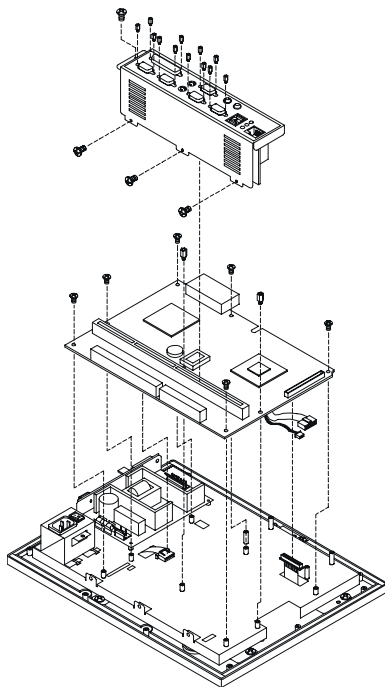

Figure 2-4: Installing/removing the PCM-5821 and I/O adapter in the PPC-105
3. Install the PCM-5821 in the panel and screw in the eight screws (see Figure 2-4)
4. When the PCM-5821 is mounted in the panel, plug and press the adapter into the socket (see Figure 2-4)